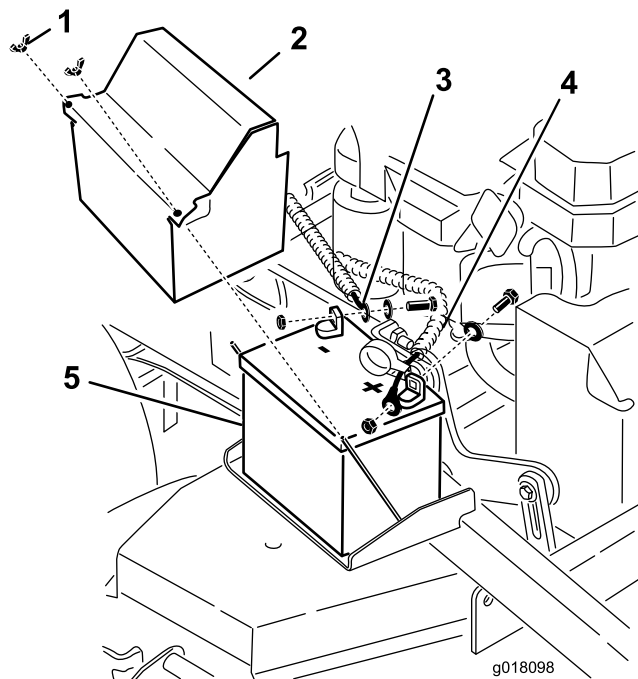

Figure 51
4. Disconnect the negative battery cable from the negative (-) battery terminal (Figure 51).
6. Remove the positive (red) battery cable (Figure 51).
7. Remove the battery hold down plate (Figure 51), and remove the battery.
1. Place the battery onto the machine (Figure 51).
3. Install the positive (red) battery cable to positive (+) battery terminal with a nut, a washer, and a bolt (Figure 51).
5. Install the negative battery cable and the ground wire to the negative (-) battery terminal with a nut, a washer, and a bolt (Figure 51).